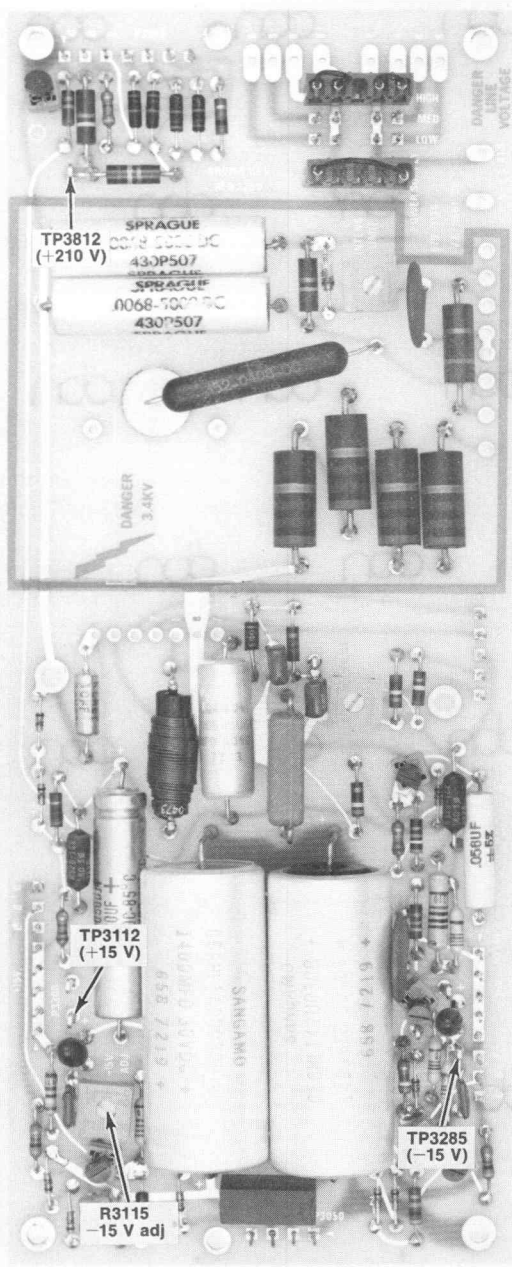

Fig. 3-6. Power supply test points and control.
a. Connect the DC Voltmeter between ground and the -15 V test point. (See Fig. 3-6).
a. Connect the DC Voltmeter between ground and the ± 15 V test point. (See Fig. 3-6).
b. Connect the DC Voltmeter between ground and the +210 V test point. (See Fig. 3-6.)